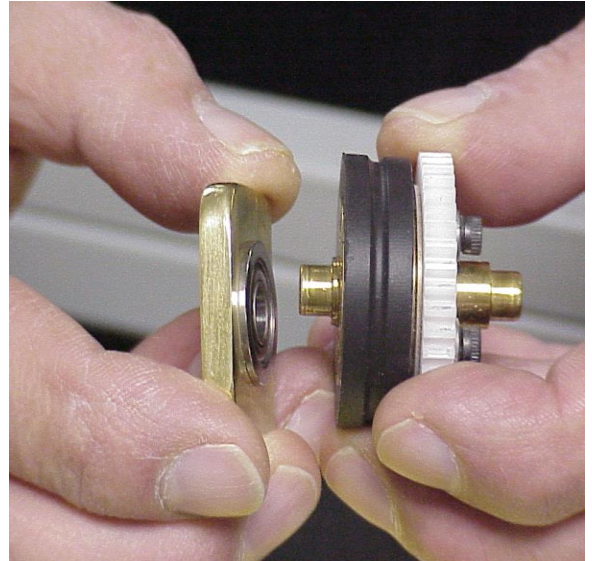

Figure 41
13.5.2.6 Slide Drive Wheel-side Bearing Hanger off hub shaft. **See Fig. 41.**